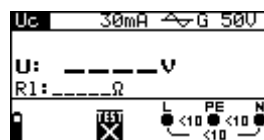

Figure 5.12: Contact voltage measurement menu
Step 4 Connect test cable to the item under test. Follow the connection diagram shown in figures 5.12 and 5.13 to perform **LowW resistance** measurement.